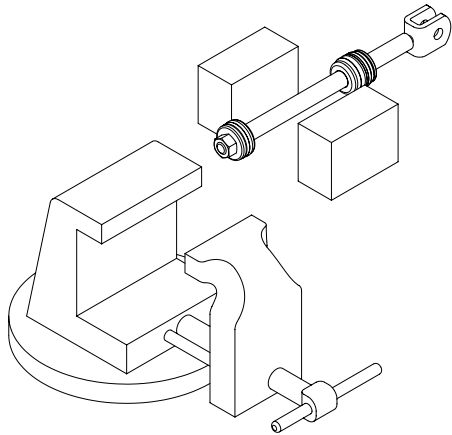

Figure 3-2, Cylinder Shaft
6. Clamp the rod assembly in a soft jawed vise on the wrench flats, **not on the rod surface**. If the rod does not have wrench flats use two pieces of wood on both sides of the rod to prevent scaring. (Figure 3-2)